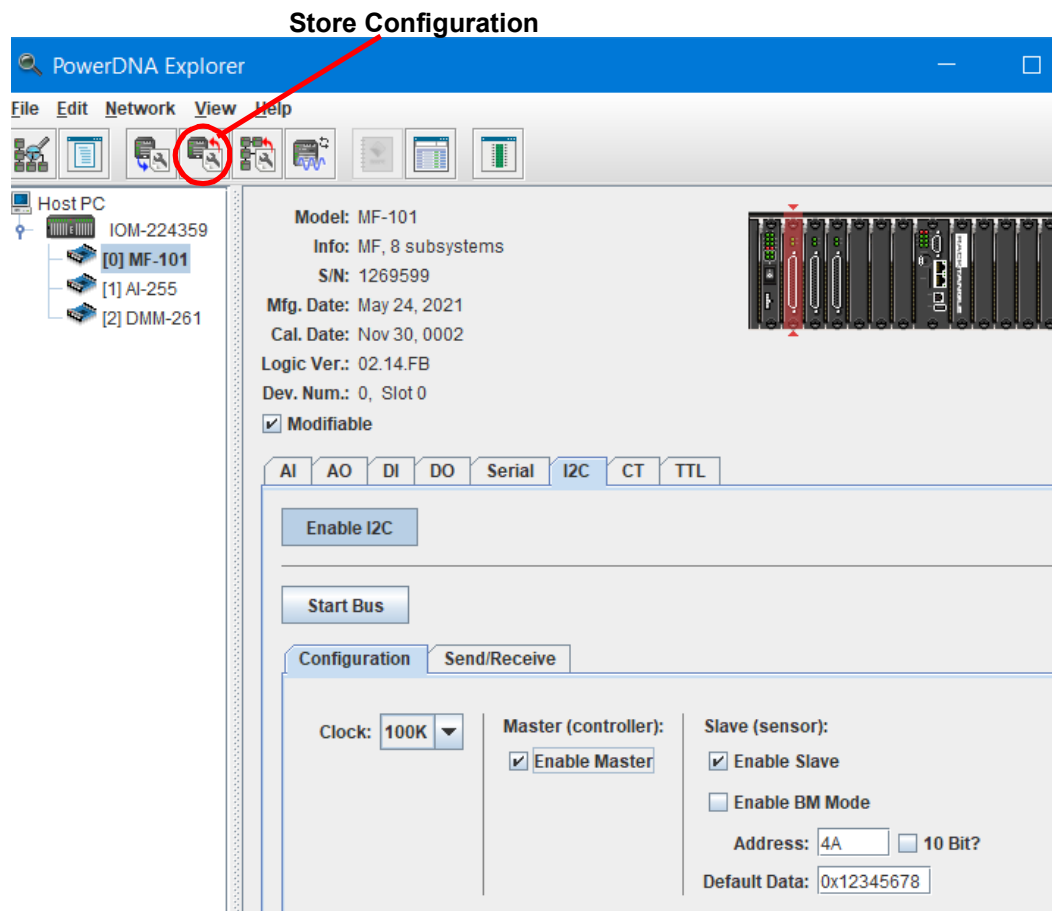

Figure 3-10 PowerDNA Explorer I2C Tab, Configuration Subtab
The I²C Configuration subtab (**Figure 3-10**) contains the following settings:
1. Enable both master and slave modules as shown in **Figure 3-10**. In this example, the slave address is set to 0x4A and its TX register is loaded with 0x12, 0x34, 0x56, and 0x78.
- Enable both master and slave modules as shown in **Figure 3-10**. In this example, the slave address is set to 0x4A.